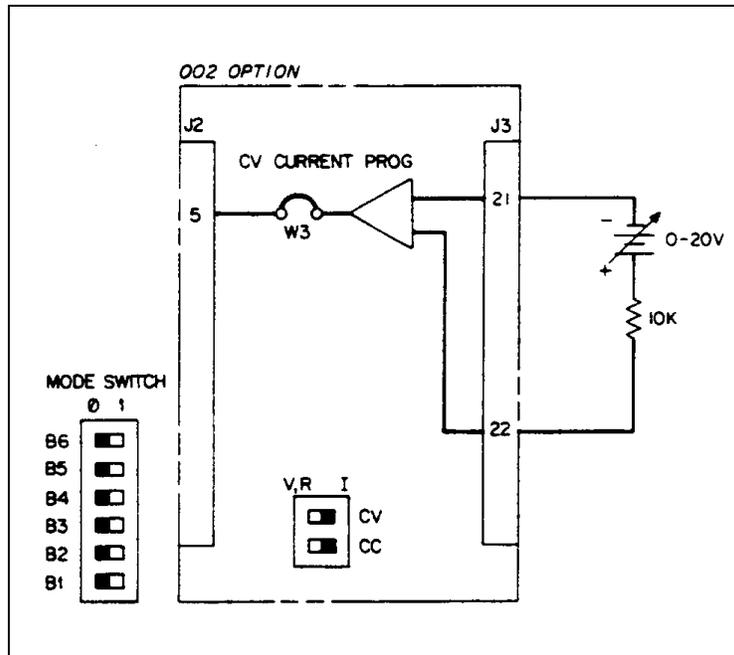

Figure A-11. Troubleshooting Current Programming of CV Mode
- b. Proceed to test set-up shown in Figure A-11 and/or A-12.